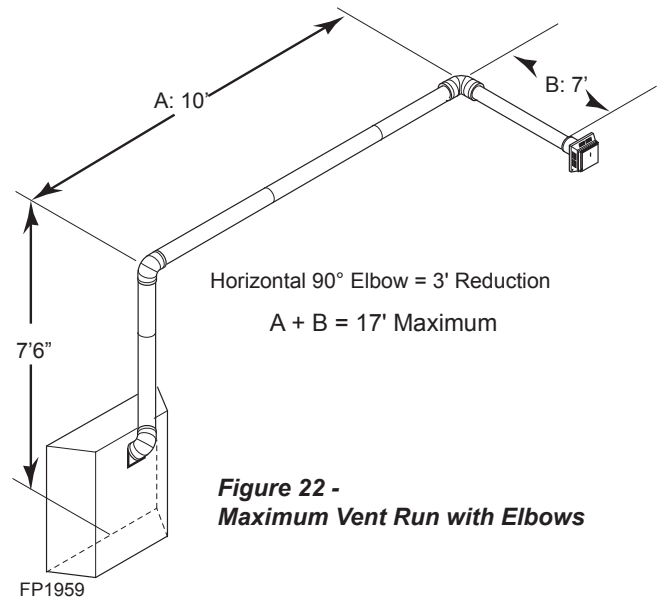
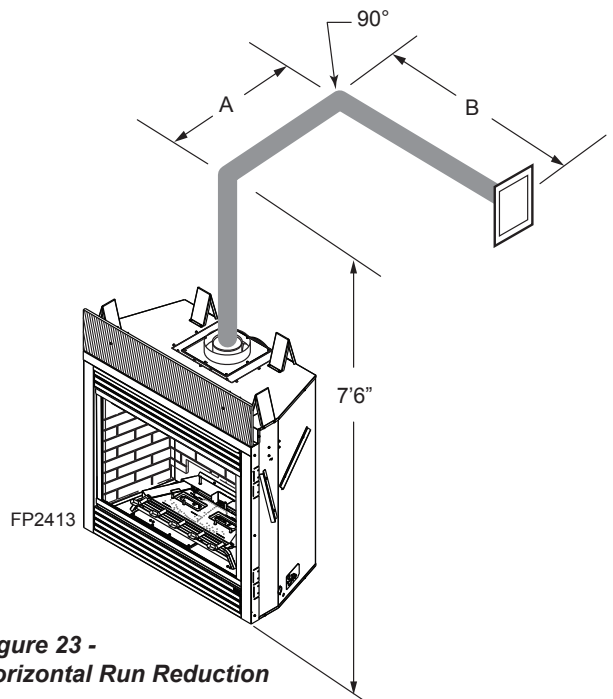

Figure 22 -
Figure 23 -
- If a 90° elbow is used in the horizontal vent run (level height maintained) the horizontal vent length is reduced by 36" (914 mm) *Figure 22*. This does not apply if the 90° elbows are used to increase or redirect a vertical rise. *Figure 23*
In *Figures 22 and 23*, Dimension A plus B must not be greater than 17' (5.2 m).